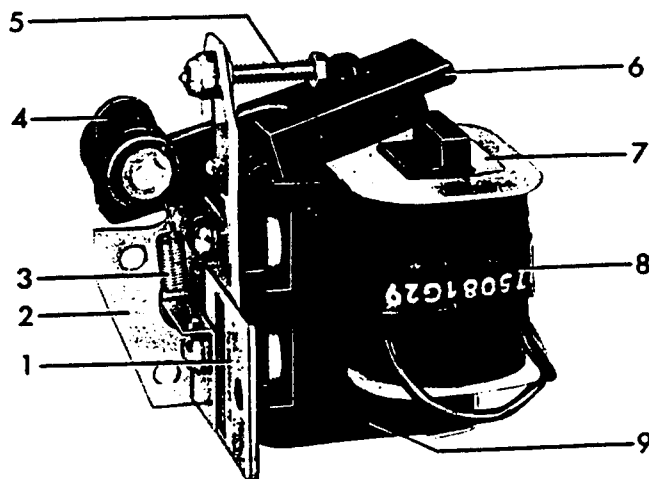

Figure 17. (8041863) Magnetic Trip Device
4. The Magnetic Trip Device which physically trips the breaker (Figure 17).
MAGNETIC TRIP DEVICE (Figure 17).